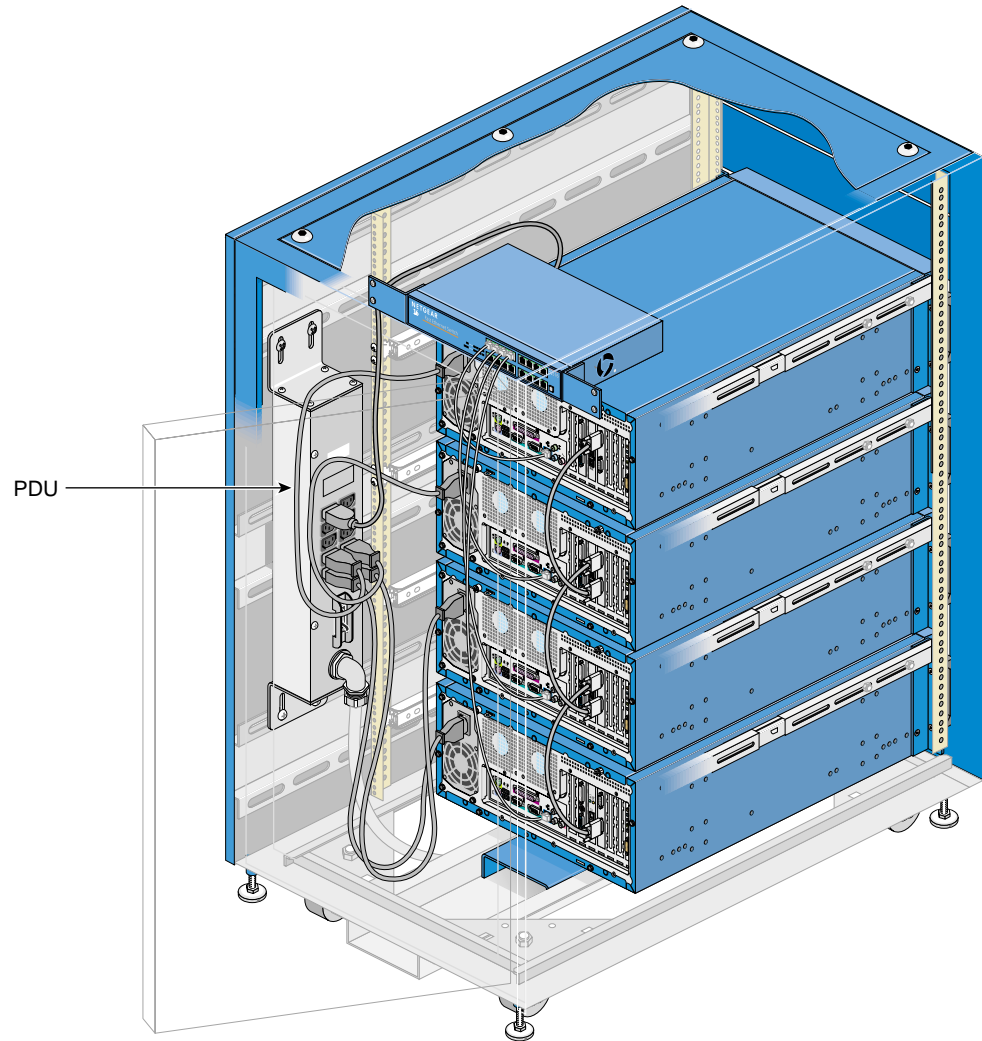

Figure 4-3 Node Power Cables
4. At the back of the rack, detach the node's power cable from its socket on the node. See Figure 4-3.